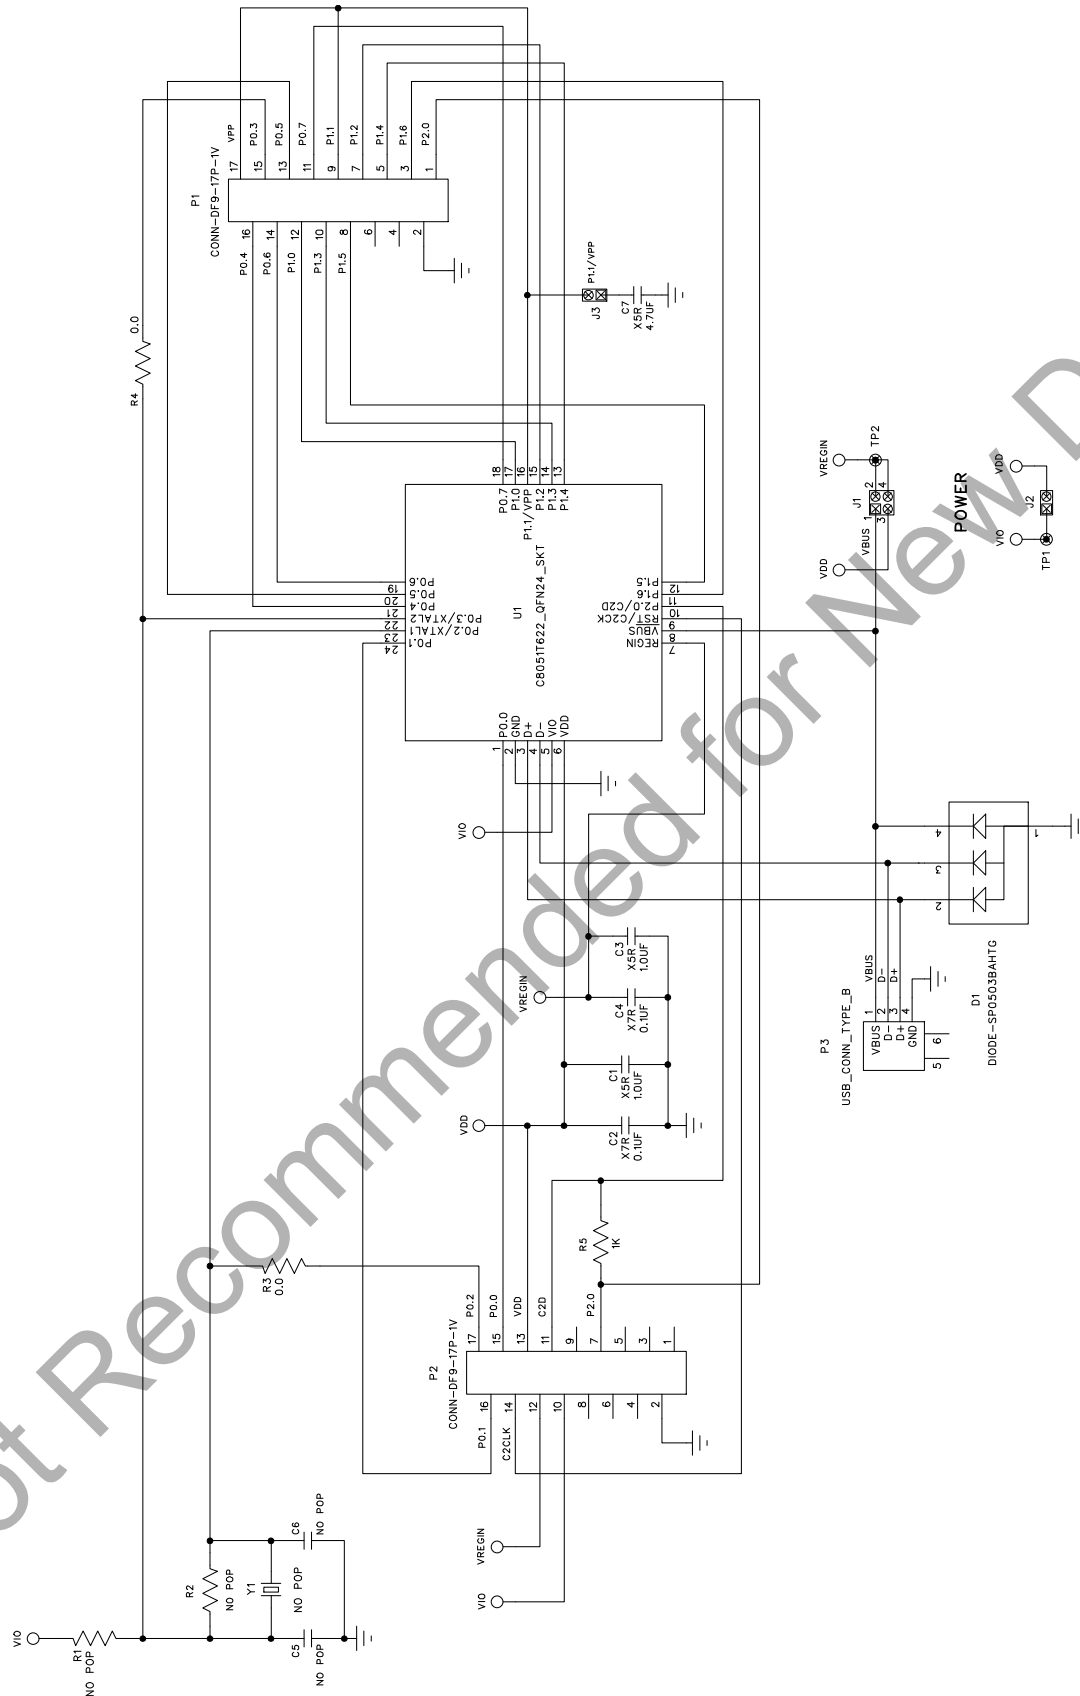

Figure 18. C8051T622 QFN-24 Daughter Board Schematic
- Updated Figure 18 on page 23.